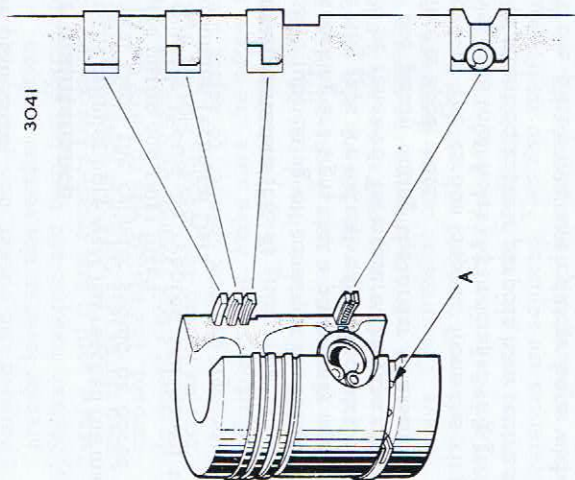

Fig. 8
33. Piston maintenance (Fig. 8)